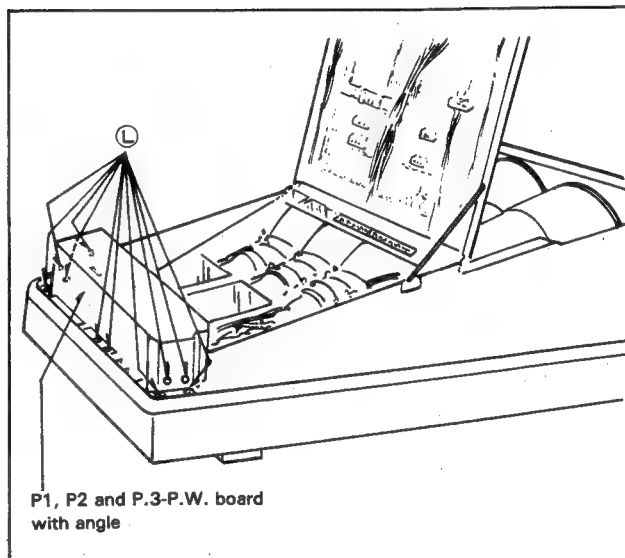

Fig. 10
- 2) Remove 10 screws ⑪, and then carefully pull and lift the P1, P2 and P3-P.W. board with angle as shown in Fig. 10.